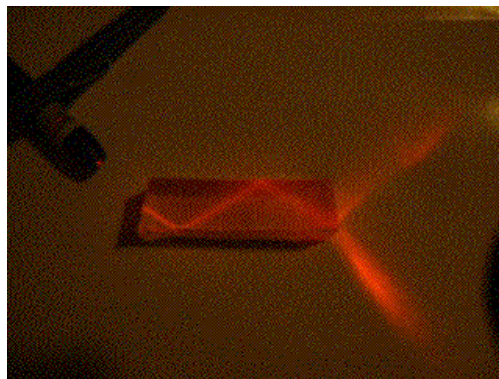

Figure 5. A gelatin “optical fiber” showing total internal reflection
- Make a gelatin optical fiber! Cut a long thin strip and shine the laser in from one end to illustrate total internal reflection (See Figure 5.) Try slicing the end of the fiber in two pieces along the length. Can you get light to travel down both branches of this "bifurcated fiber"?